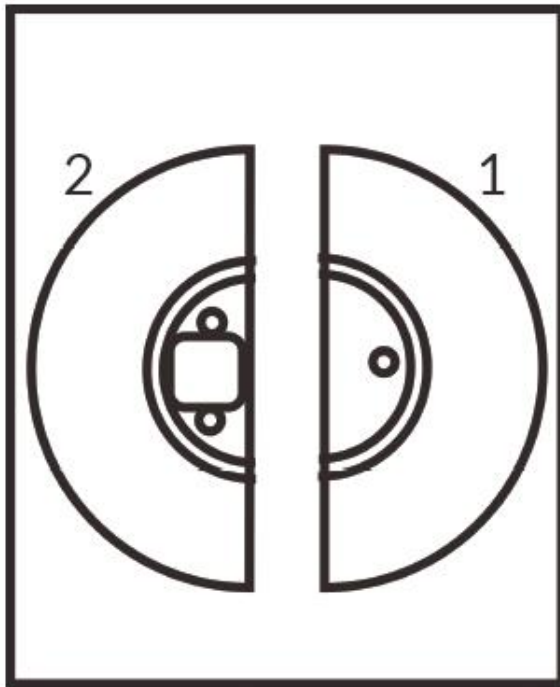

Abb. 1
- Turn the fan upside down so you can see the motor (2) (see Fig. 1). It is best to place a blanket over it to avoid damaging the case.